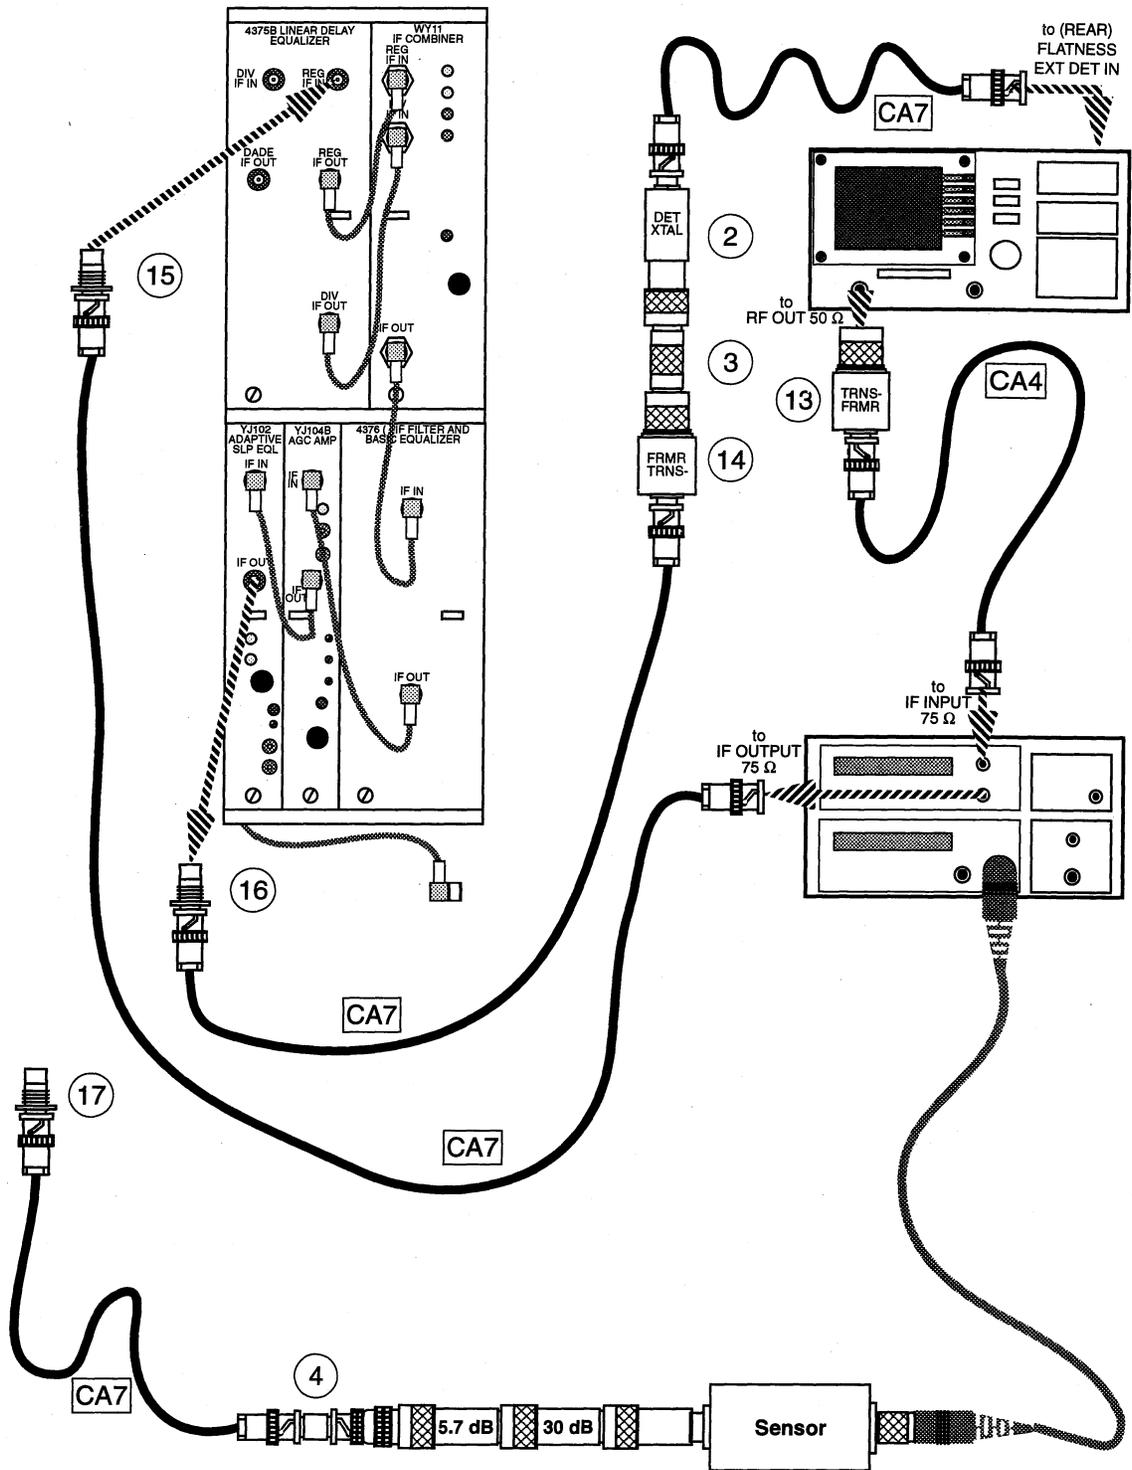
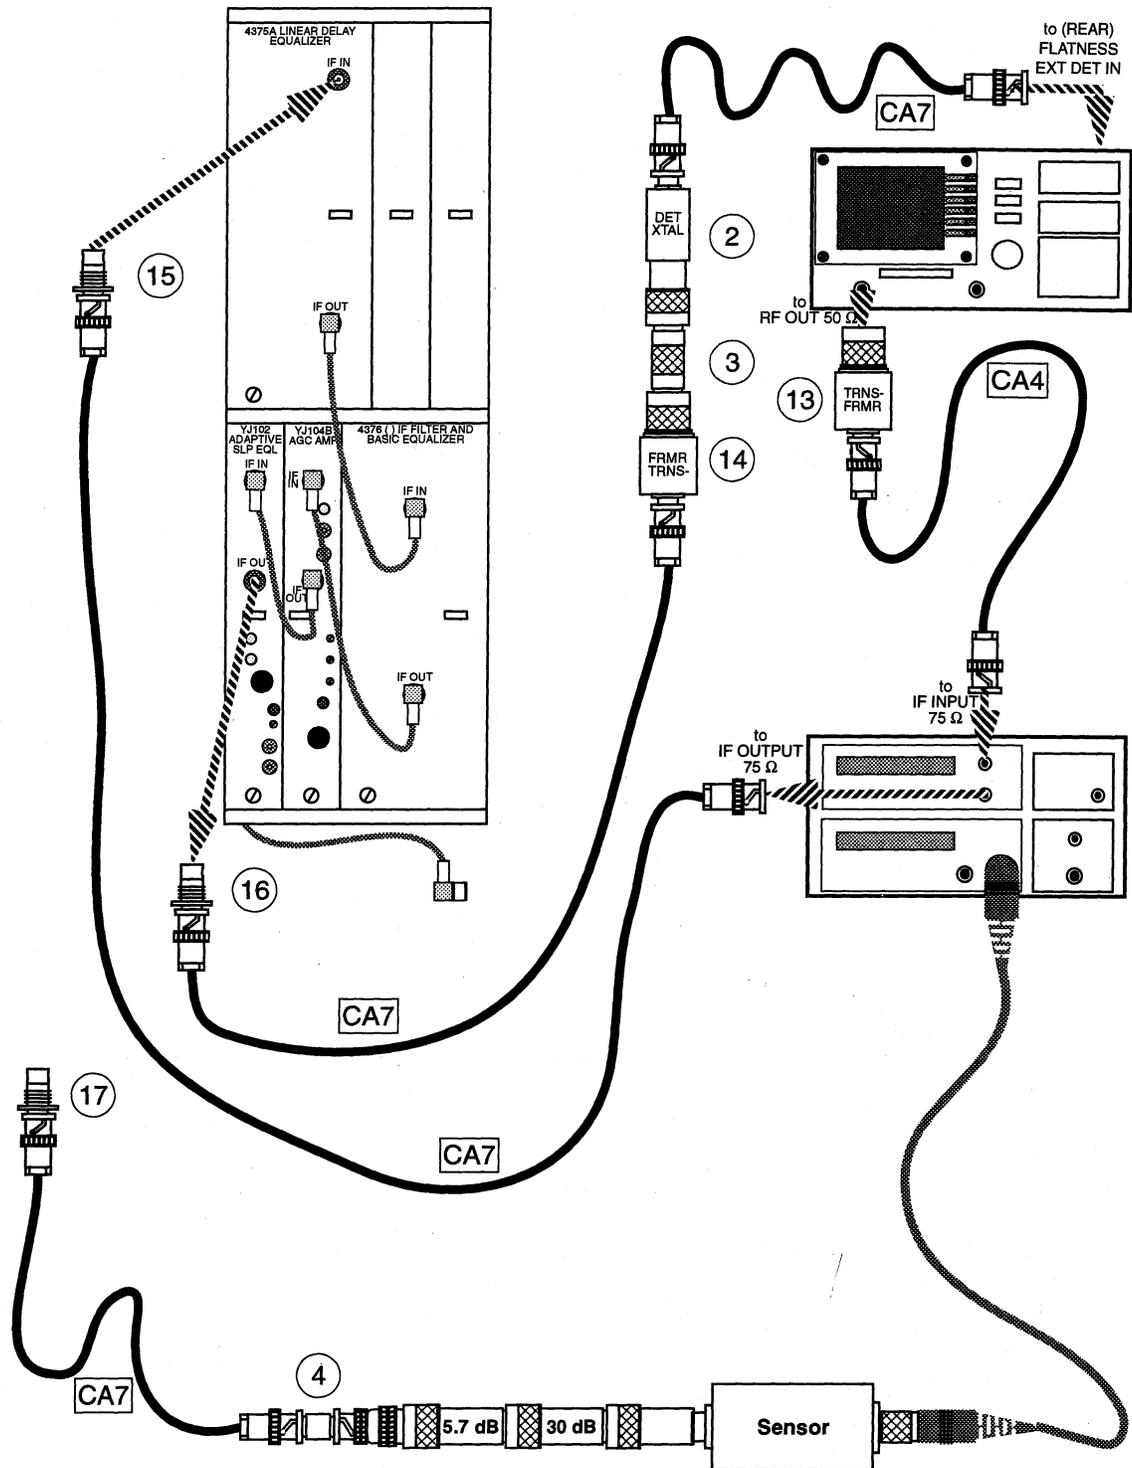

Figure 27. Receiver Amplitude vs. Frequency Response (ANT DIV)
Figure 28. Receiver Amplitude vs. Frequency Response (Non-DIV)
- 11 Connect the test equipment as shown in Figure 27 (antenna diversity) or Figure 28 (non-diversity).